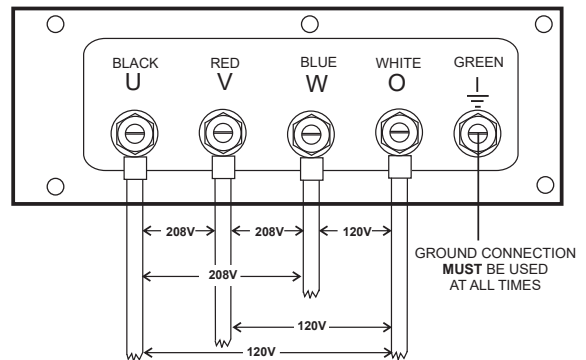

Figure 23. UVWO Terminal Lugs (3-Phase 208-Volt / 1-Phase 120-Volt Connections)
2. Connect the load wires to the **UVWO terminal lugs** as shown in Figure 23.